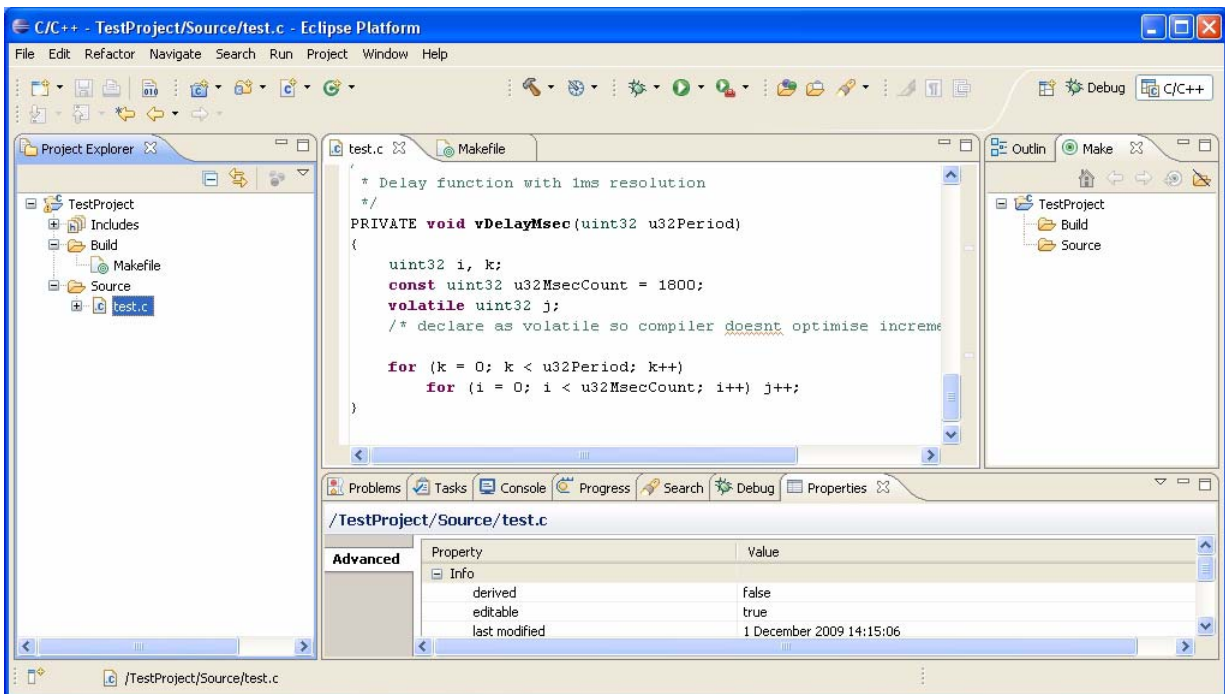

Figure 4: Editing Your C Project
- Step 1** If the required project is not already open (if it has been closed since it was created), expand the project by clicking on the **+** symbol next to the project in the **Project Explorer** panel. This displays the project tree - see Figure 4. Similarly, click on the **+** symbol next to the **Source** folder.
- Step 2** Double-click on the file to be edited in the **Project Explorer** panel. This displays a tab in the centre edit panel - see Figure 4.